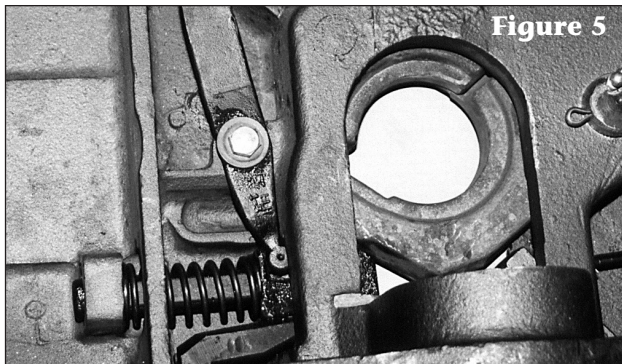
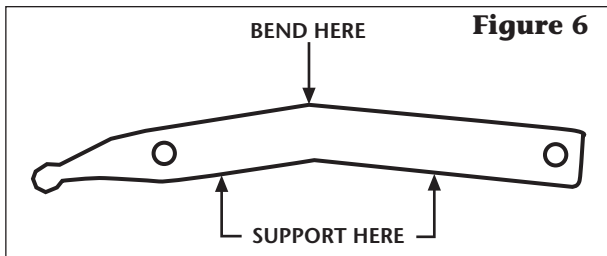

Figure 5
Figure 6
**CAUTION: DO NOT OVERTIGHTEN** as release arm (15) must move freely. Install hex head lock nut (14) on cap screw (12) and tighten.
6. Check travel of the plunger. With the release handle in the closed position, the edge of the release lever (15) should be a maximum of 1/2" from the top plate casting rid (see **Figure 4**). If this condition does not exist, check if the rounded end of the release lever (15) is passing under the guide rib of the casting, as shown in **Figure 5**. If the rounded end is hitting the rib, bend the rounded end of the release lever (15) down so that it goes deeper into the plunger slot. If the release lever is still greater than 1/2" from the casting rib, remove the release lever and bend it as shown in **Figure 6** until it is less than 1/2" from the casting. If the square end of the release lever (15) and/or end of the release handle (16) is hitting the casting rib (see **Figure 4**), grind the corner of the release lever (15) and/or the end of the handle (16) until it is clear of the casting rib.